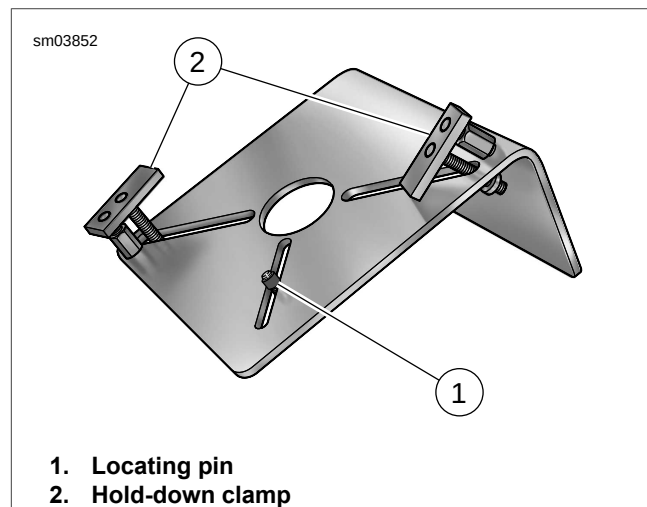

Figure 3-139. Flywheel Holding Fixture
1. See Figure 3-139. Install brass jaws or shop towels around teeth of vise to prevent damage to tool. Obtain FLYWHEEL SUPPORT FIXTURE (Part No. HD-44358). Clamp tool in vise with the round hole topside.